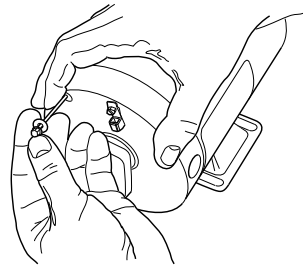
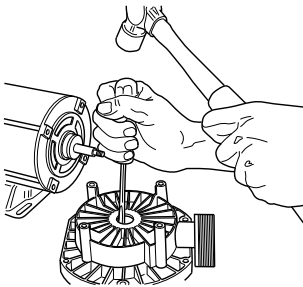

Figure 10
Figure 11
9. Remove motor throughbolts (see Figure 10). Remove seal plate (Key No. 9). Tap stationary half of seal out of seal plate (see Figure 11).